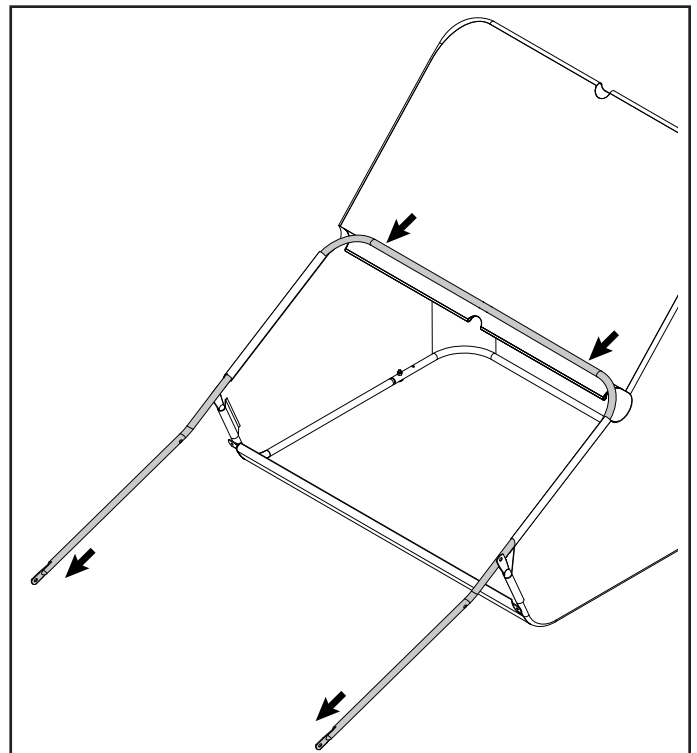

FIGURE 11
19. Slide the assembled tubes down through the flaps in the sides of the hopper bag (3) as shown in figure 11.